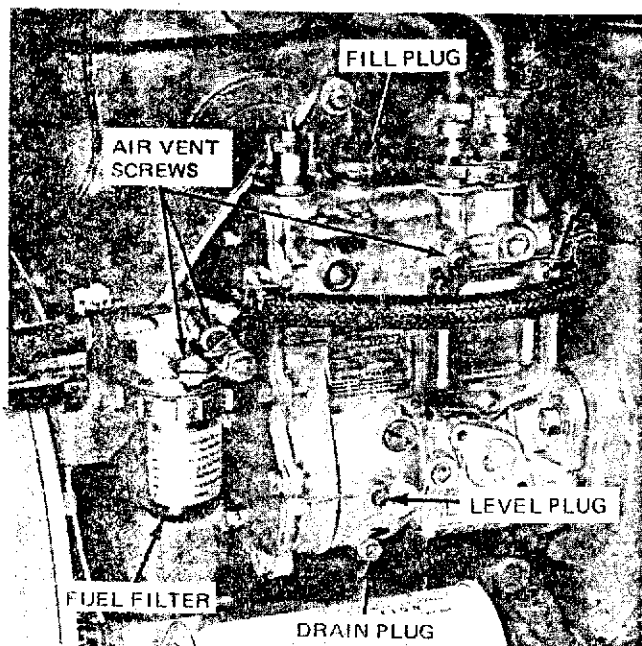

Figure 31 — Fuel Injection Pump
1. Remove the drain plug located at the bottom of the injection pump to drain the old oil. See Figure 31.
1. Be sure there is adequate fuel in the fuel tank; close the fuel shut-off valve, Figure 6, then remove the fuel sediment bowl. Figure 31.
2. Remove the sediment bowl. Figure 31.
3. Open air vent screws (Figure 31) and let air bubbles escape from screws while cranking the engine. Then tighten vent screw.